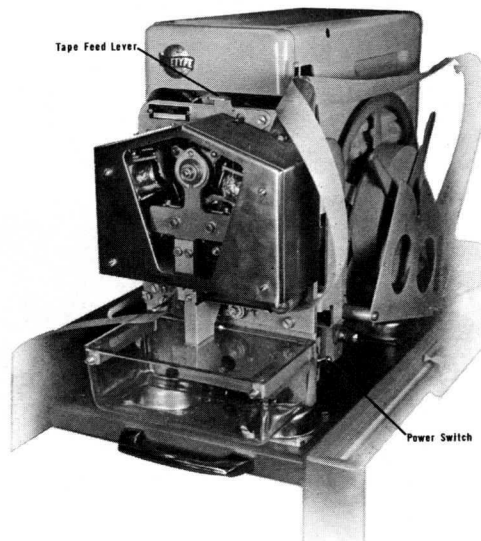

Figure 4-6. Paper Tape Punch
The paper tape punch (figure 4-6) is mounted on a hinged rack at the rear of the right wing of the console. Punch tape feeds out of a slot in the compartment door; the chad box is just inside the door.
- c) Thread tape as shown in figure 4-6. Bring tape around lower roller and into guides leading to punch block.